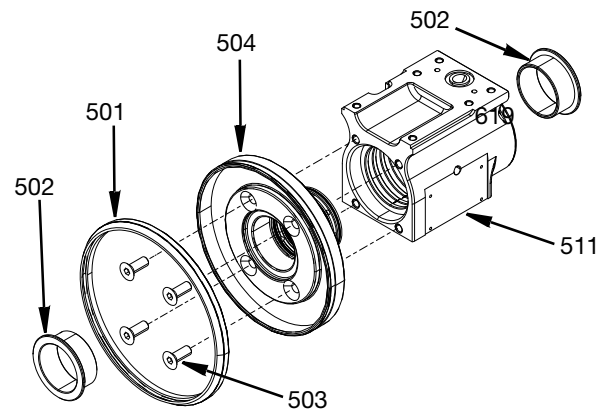

FIG. 25
1. Insert support ring (510) into the larger bore end of the swivel housing assembly (511) until the support ring is square against the internal shoulder.
2. Apply a thin coat of lithium grease onto the outside of the O-ring on the rotary seal (508). To prevent damage to the Rotary seal O-ring insert into the bore of the swivel housing (511) at an angle. Make sure that the O-ring does not tear against the inlet opening and push the rotary seal against the support ring (510). See side view FIG. 25.
3. Insert material distributor ring (509) into the bore of the swivel housing (511). It is recommended to use the **Material Seal Insertion/Removal Tool, 17V972** on page No. 38 and a soft faced mallet. Push the material distribution ring (509) and rotary seal (508) fully to the bottom of the bore.
4. Apply a thin coat of lithium grease onto the outside of the next O-ring on the rotary seal (508). To prevent damage to the Rotary seal O-ring insert into the bore of the swivel housing (511) at an angle. Make sure that the O-ring does not tear against the weepage port and push the rotary seal against the material support ring (509). See top view FIG. 25.
7. Apply a thin coat of lithium grease to the O-rings (505) and insert into the bore of the swivel housing (511). Apply anti seize to M6 flathead socket screws (503) and thread in finger tight. See FIG. 25.
8. Push one flange bearing (502) into the swivel housing (511), and one flange bearing (502) into the air distribution ring bearing (504). See FIG. 25.
9. Install dust seal ring (501) around the outside surface of the air distribution ring bearing (504). See FIG. 25.